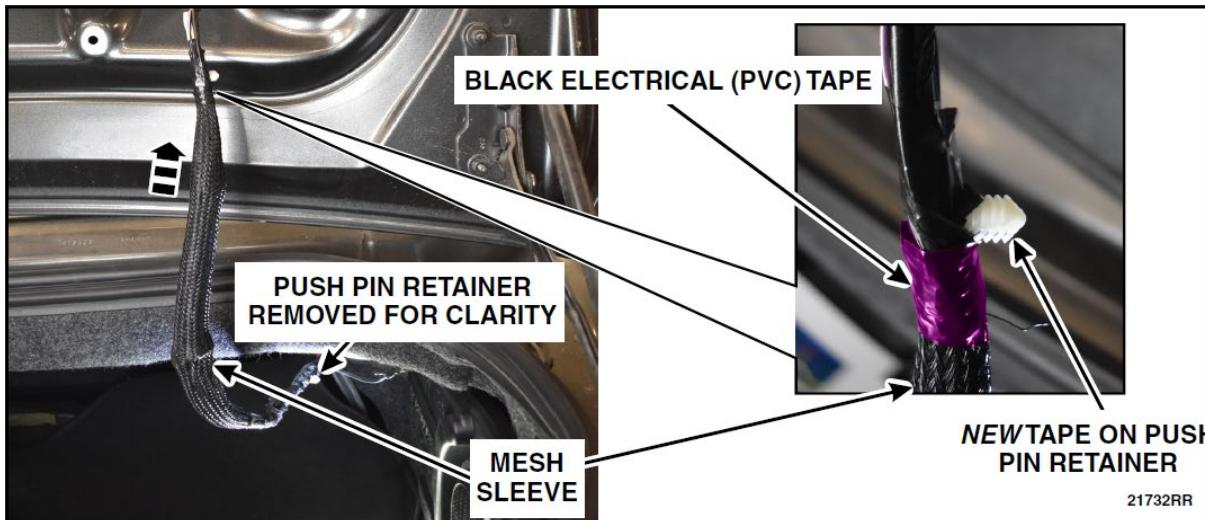

FIGURE 51
70. Position the mesh sleeve to the new tape on push pin retainer and secure using some KTI73510 or equivalent black electrical (PVC) tape. See Figure 51.